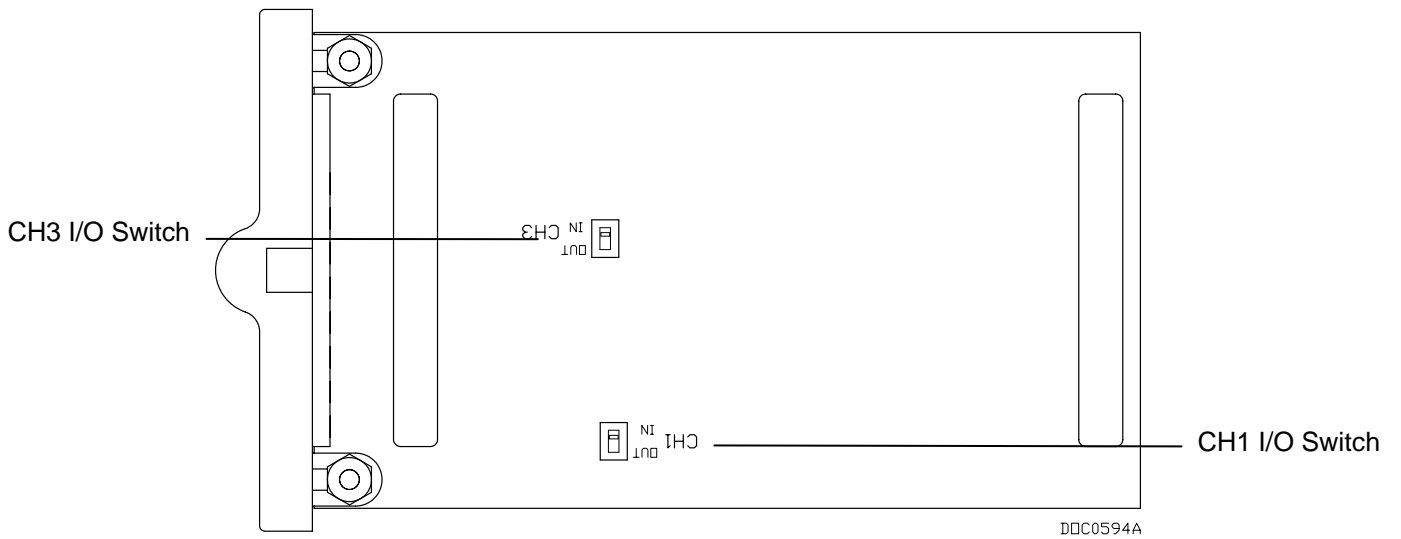

Figure 5-8. HART Channels 1 and 3 (back side of board)
Switches on the module board allow channel-by-channel selection as an Analog Input (IN) or Analog Output (OUT). The switches for Channel 2 and 4 are located on the front of the module, while the switches for channel 1 and 3 are located on the back of the module. Use a pin to move the switches to the desired state (refer to Figures 5-8 and 5-9).